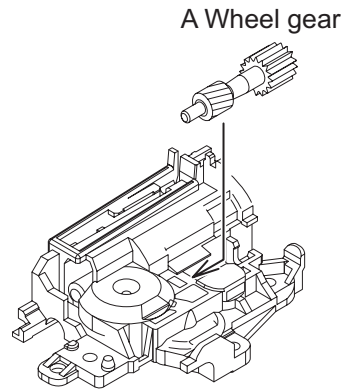

Fig.15
### 3.3.9 Removing the Loading motor (See Fig.15 to 18)
- (1) Remove the A wheel gear. (See Fig.15)